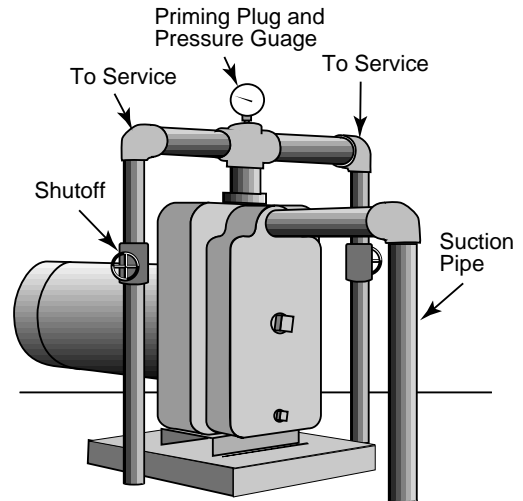

Figure 8 – Multiple Discharge
Pump discharge can be divided to supply two (2) or more sprinkler systems. A suggested multiple discharge to service is shown in Figure 8.